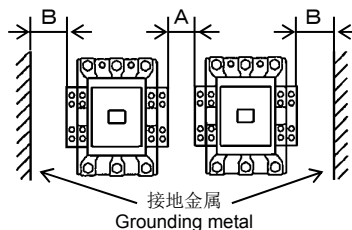

Fig.1
3. 安装 (Fig. 1)
3. Mounting Space (Fig. 1)